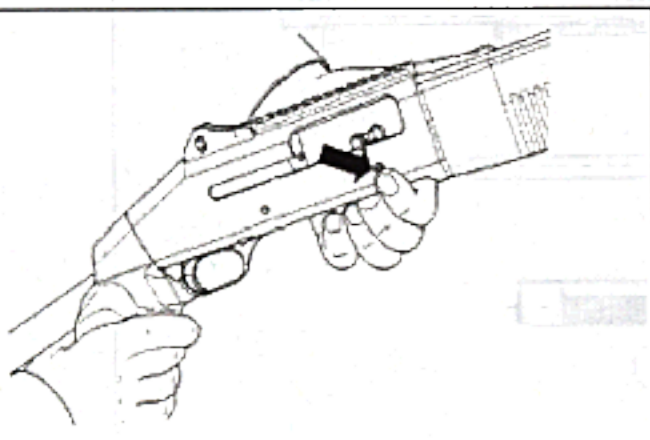

Figure 6c. Bolt release button
**Bolt Release Button** – The bolt release button is located on the right side of the receiver just below the bolt handle and ejection port. This operating control is depressed by the operator to close the open bolt and is attached to the shell stop. The operator can easily actuate this button while under stress using the non-firing hand without adjusting the grip of the firing hand (**Figure 6c**).